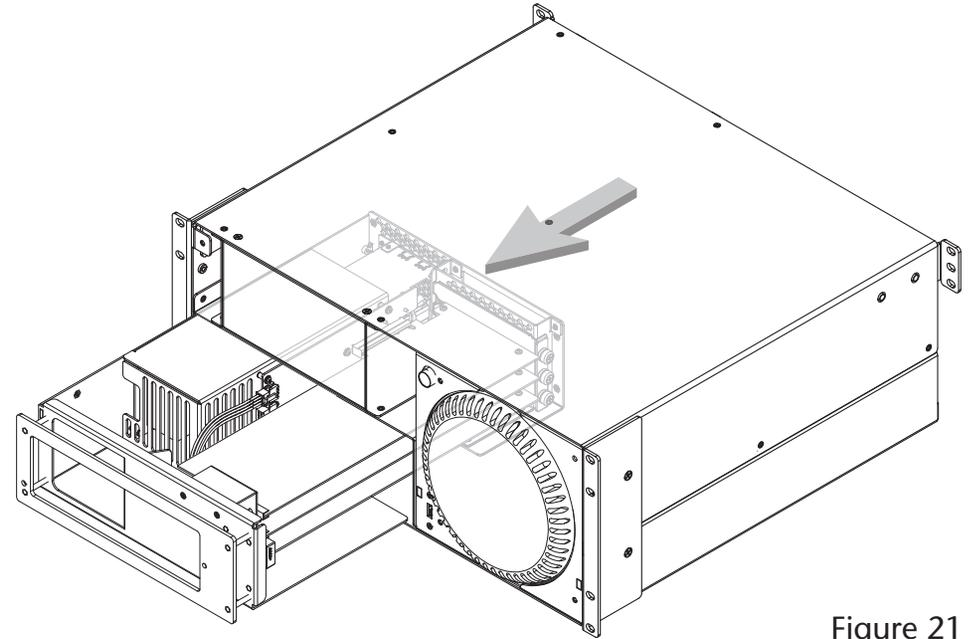

Figure 21
5. Gently pull out the PCIe card expansion module through the front of the enclosure, and then set it aside (**Figure 21**).